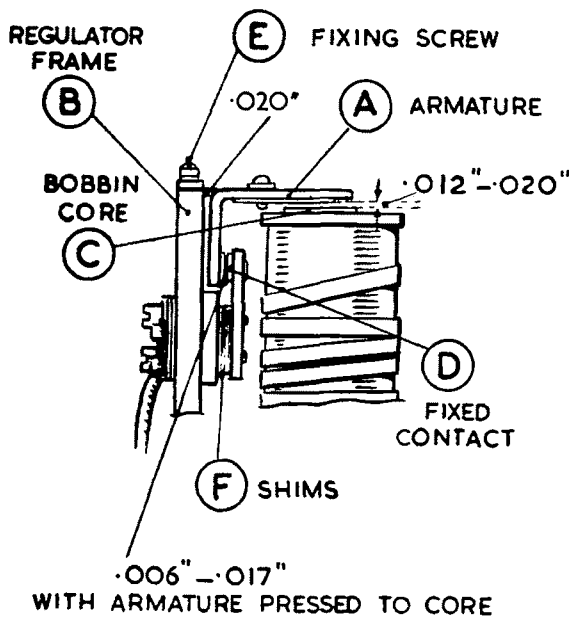
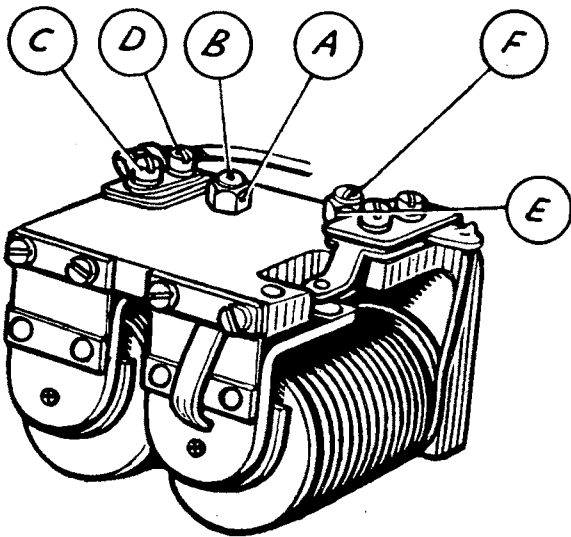

Fig. N.7
Fig. N.8
Shut off the engine, remove the control box cover, release the locknut (A) (Fig. N.8) holding the adjusting screw (B) and turn the screw in a clockwise direction to raise the setting or in an anti-clockwise direction to lower the setting. Turn the adjusting screw a fraction of a turn and then tighten the locknut.
- (1) Slacken the two armature fixing screws (E) (Fig. N.7). Insert a .020 in. (.51 mm.) feeler gauge between the back of the armature (A) and the regulator frame.
- (2) Press back the armature against the regulator frame and down onto the top of the bobbin core with the gauge in position and lock the armature by tightening the two fixing screws.
- (3) Check the gap between the under side of the arm and the top of the bobbin core. This must be .012 to .020 in. (.30 to .51 mm.). If the gap is outside these limits correct by adding or removing shims (F) (Fig. N.7) at the back of the fixed contact (D) or, in later types, by carefully bending the fixed contact bracket.
- (4) Remove the gauge and press the armature down, when the gap between the contacts should be between .006 in. (.15 mm.) and .017 in. (.43 mm.).
To render the regulator contacts accessible for cleaning, slacken the screws securing the plate carrying the fixed contact. It will be necessary to slacken the upper screw (C) (Fig. N.8) a little more than the lower screw (D), so that the contact plate can be swung outwards. Clean the contacts by means of fine carborundum stone or fine emery-cloth. Carefully wipe away all traces of dirt or other foreign matter. Finally tighten the securing screws.
If the cut-out has become out of adjustment and operates at a voltage outside these limits it must be reset. To make the adjustment, slacken the locknut (E) (Fig. N.8) and turn the adjusting screw (F) a fraction of a turn in a clockwise direction to raise the operating voltage